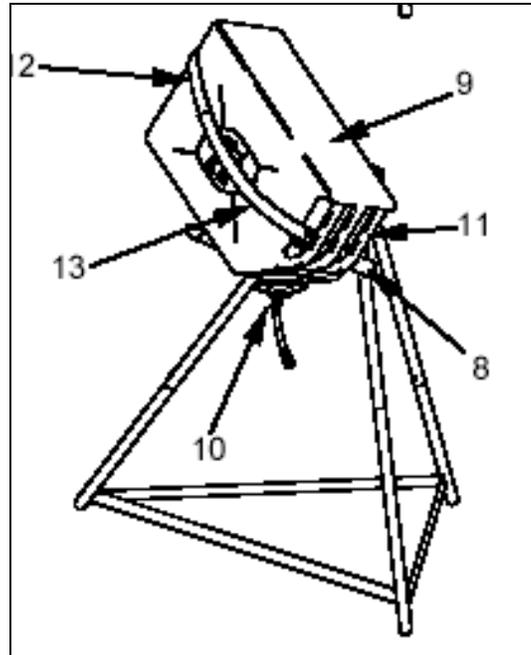

Figure 9
(5) Setting up the Fuel Can Stand (See Figure 9)